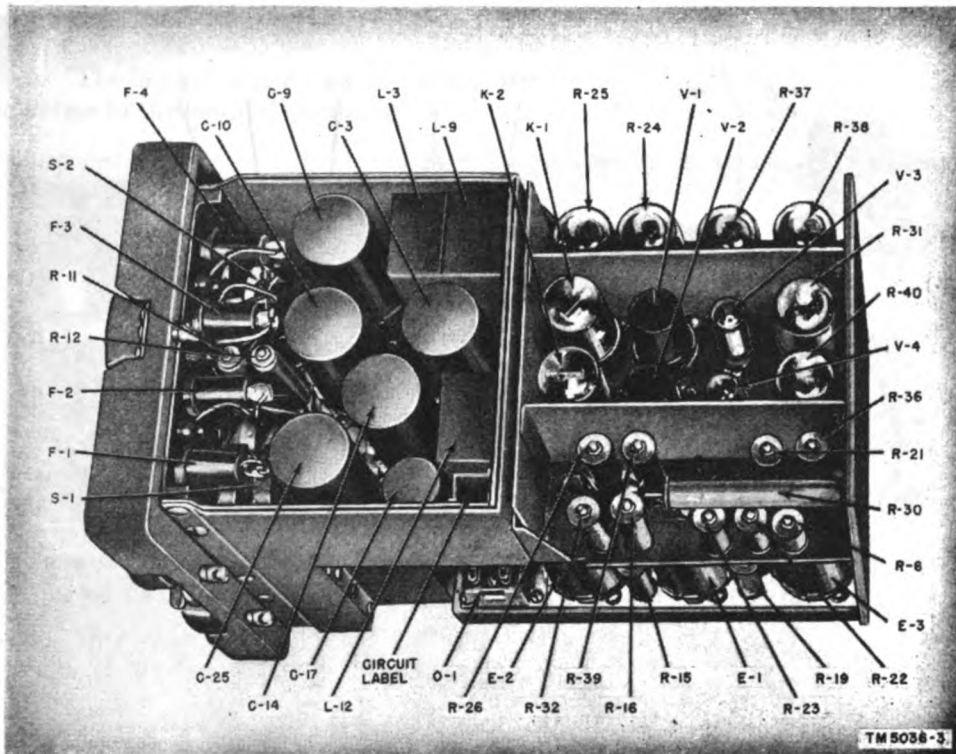

Figure 49. Power Supply PP-112/GR, top view of chassis.
b. **THERMAL RELAYS AND BALLAST TUBES.** To gain access to the thermal relays and ballast tubes, it is necessary to remove the panel-chassis assembly from the case (par. 89). All of these parts are accessible from the top of the chassis (figs. 49 and 50). Remove the relays or ballast tubes in the same manner as any standard octal-base tube; with a straight upward pull. Do not rock or jiggle the components in their sockets (note that similarly designated parts are located differently in the 12- and 24-volt supplies).